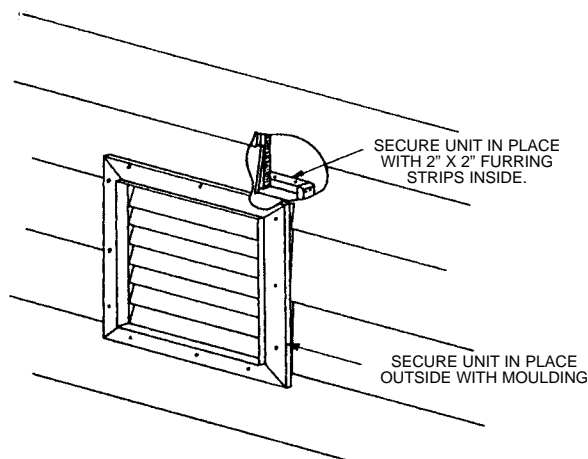

FIG. 5
STEP 10—Nail frame assembly securely in place. Moulding may be used outside to improve appearance, as shown in Fig. 5. Caulk around moulding to provide a water-tight seal. Follow wiring instructions on pages 11 & 12.